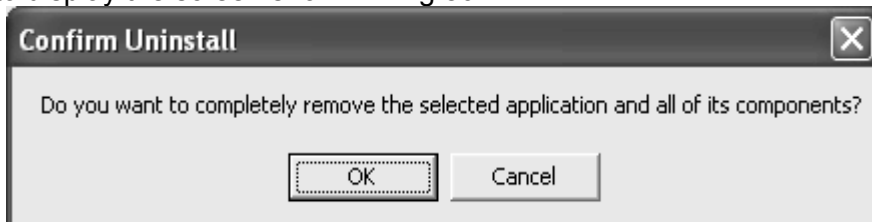

Fig. 80 Confirmation of uninstallation
(7) Click **Next** to display the screen shown in Fig.80.